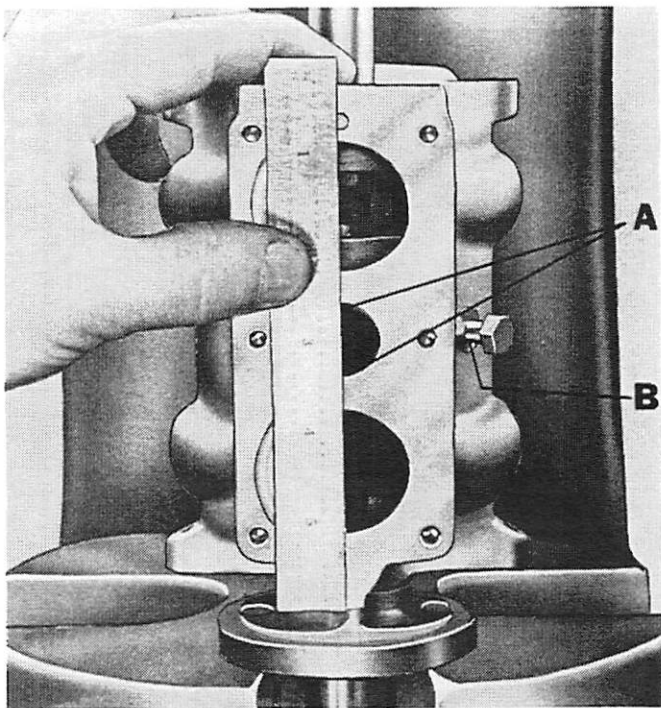

Figure 12. Aligning Center Main Bearing
9. Place shaft into crankcase with tapered end down (Figure 12), aligning center main bearing directly with hole in crankcase block. Use steel rule to align holes.
10. Press in until equal space is attained on each side of center main bearing opening. ("A" in Figure 12)
11. Space equally. There should be perfect alignment to center threaded screw hole. ("B" in Figure 12)